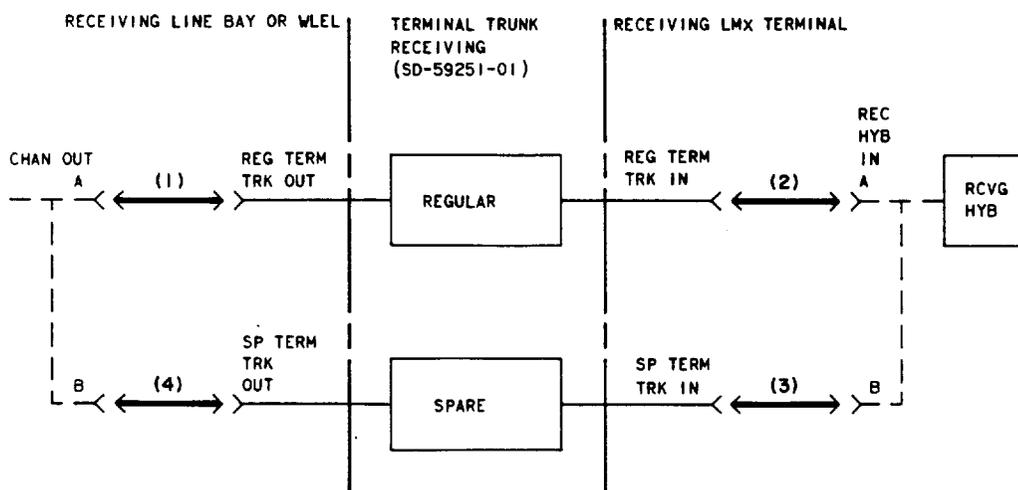

Fig. 5—Restoring Regular Receiving Trunks to Service—Patching Procedure
Restoring Regular Receiving Trunks to Service (Fig. 5)
28 At the receiving line bay or WLEL, using a 372A plug, connect the CHAN OUT A jack to the REG TERM TRK OUT jack [patch (1), Fig. 5].
(a) Using a 372A plug, connect the REG TERM TRK IN jack to the REC HYB IN A jack [patch (2), Fig. 5].
(b) Remove the 372A plug from the SP TERM TRK IN and REC HYB IN B jack [patch (3), Fig. 5].
32	At the receiving line bay or WLEL, remove the 372A plug from the CHAN OUT B and SP TERM TRK OUT jacks [patch (4), Fig. 5].